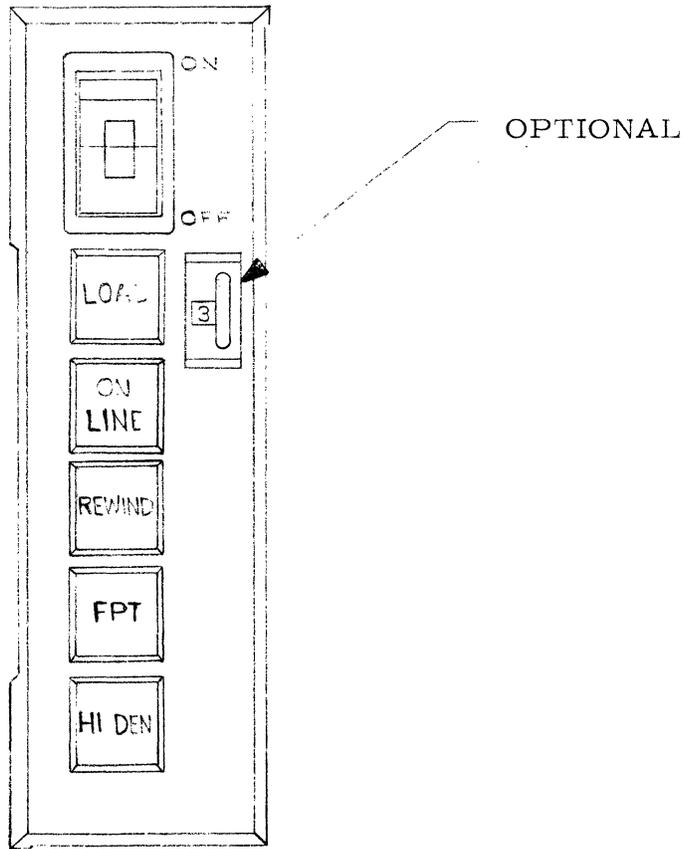

Figure 2. Operator Control Panel
6.3.1 Operator Control Panel Switches and Indicators (See Figure 2)